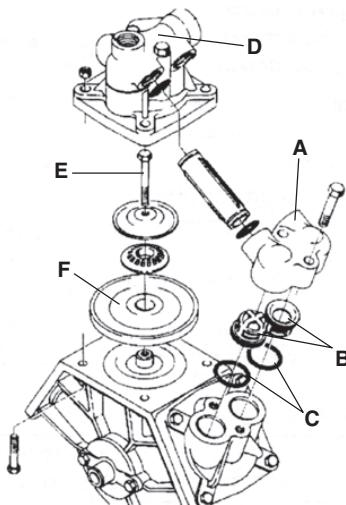

Fig 38
- 1 Remove valve covers (**A** Fig 38). Before changing the valves (**B** Fig 38) note their orientation so they are replaced correctly. It is recommended to use new O-rings (**C** Fig 38) when changing or checking the valves.
- 1 Remove the diaphragm covers (**D** Fig 38).
- 2 Remove the diaphragm bolts (**E** Fig 38).
- 3 The diaphragms (**F** Fig 38) may now be changed.